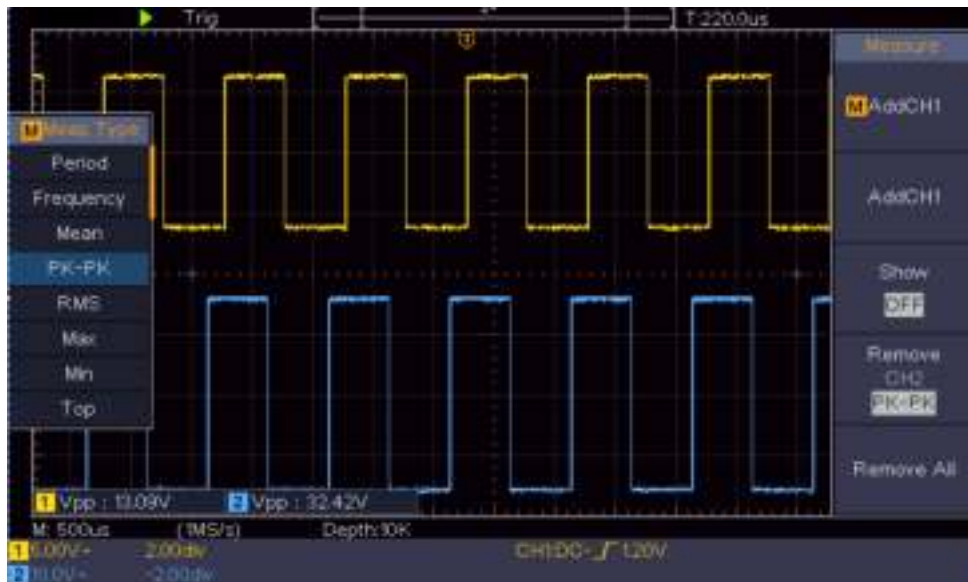

Figure 6-2 Waveform of Gain Measurement
- (1) Push the **Autoset** button and the oscilloscope will automatically adjust the waveforms of the two channels into the proper display state.
- (2) Push the **Measure** button to show the right menu.
- (3) Select **AddCH1** in the right menu.
- (4) In the left Type menu, turn the **M** knob to select **PK-PK**.
- (5) In the right menu, select **AddCH1**. The peak-to-peak type of CH1 is added.
- (6) In the right menu, select **AddCH2**. The peak-to-peak type of CH2 is added.
- (7) Read the peak-to-peak voltages of Channel 1 and Channel 2 from the bottom left of the screen (see *Figure 6-2*).
- (8) Calculate the amplifier gain with the following formulas.